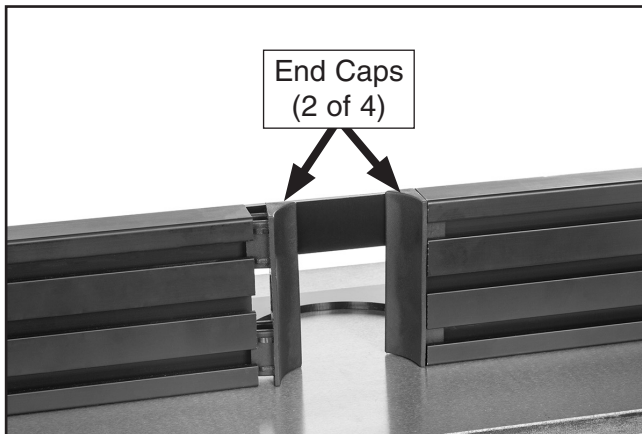

Figure 26. End caps pressed into fences.
20. Press (4) fence end caps into position, as shown in **Figure 26**.